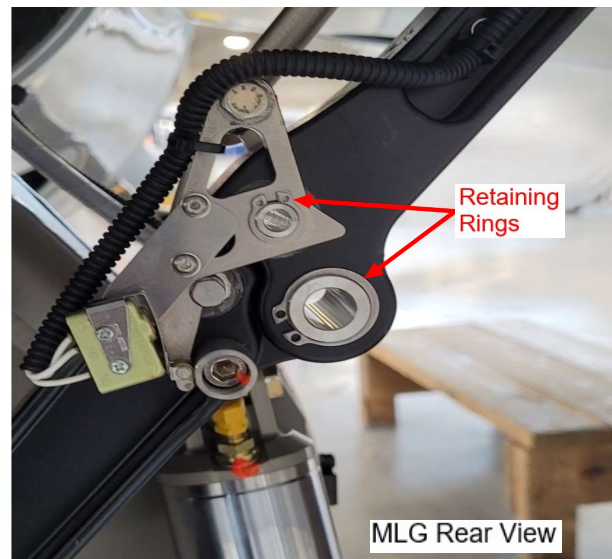
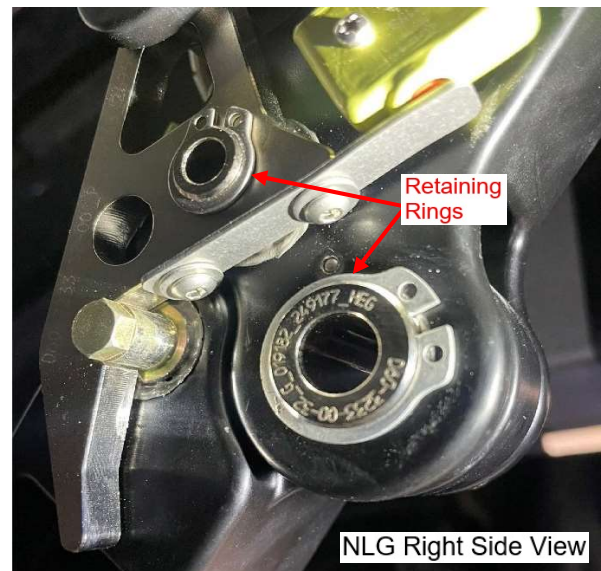

Figure 1. MLG Retaining rings.
Figure 2. NLG Retaining rings.
2. Locate the retaining rings. See Figure 1 for MLG locations and Figure 2 for NLG locations.
3. Remove the retaining rings from the MLG legs and NLG leg as per figures above (Refer to Figures 1 and 2 for location).